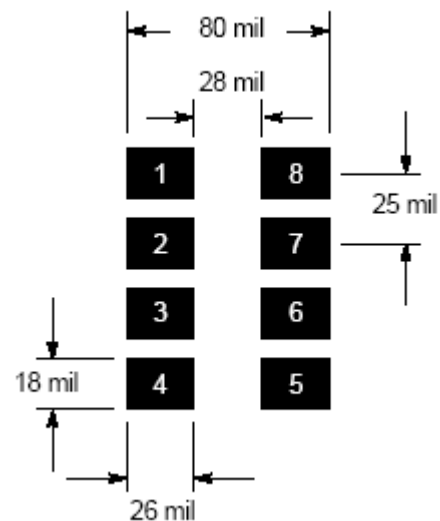
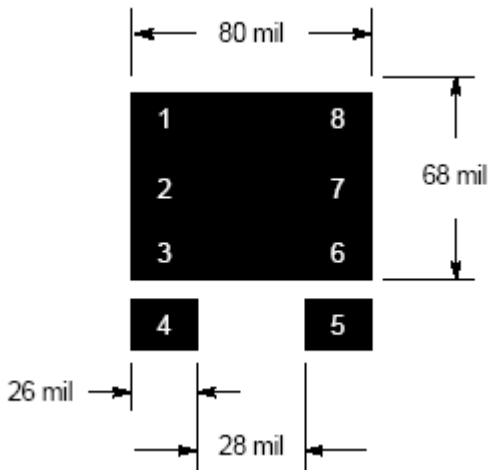
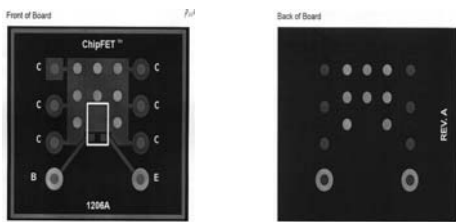

Figure 2. Basic Pad Layout
Figure 3. Minimum Recommended Pad Pattern
Figure 4. Evaluation Board
The basic pad layout with dimensions is shown in Figure 2. This is sufficient for low $V_{CE(sat)}$ BJT applications, but power semiconductor performance requires a greater copper pad area, particularly for the collector leads. The minimum recommended pad pattern, shown in Figure 3, improves the thermal area of the collector connections (Pins 1, 2, 3, 6, 7, 8) while remaining within the confines of the basic footprint. The collector copper area is 0.0054 sq. in. or 3.51 sq. mm. This will assist the power dissipation away from the device (through the copper lead-frame) and into the board and exterior chassis (if applicable) for the device. The addition of a further copper area and/or the addition of vias to other board layers will enhance the performance still further. An example of this method is implemented on the Evaluation Board described in the next section (Figure 4).
- Minimum recommended pad pattern (see Figure 3) on the evaluation board size of 0.5 in. x 0.6 in. = 156°C/W
- The evaluation board with the pad pattern described in Figure 4 = 111°C/W